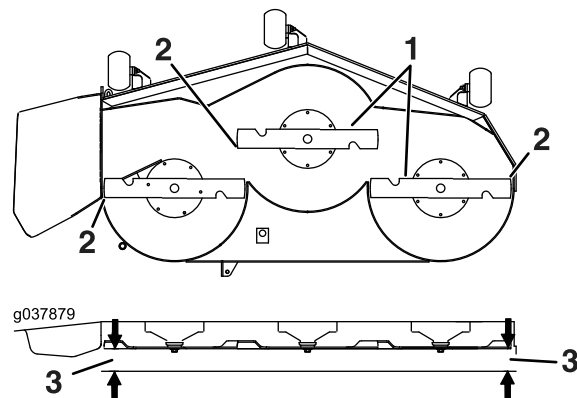

Figure 104
6. Measure between the blade tip and the flat surface (Figure 104). If both measurements are not within 5 mm (3/16 inch), adjust the leveling; continue with this procedure.
14. Carefully rotate the blades side to side (Figure 104).